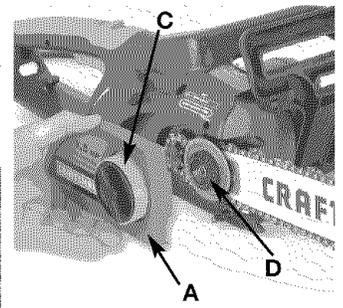

Fig. 20B
2. Install sprocket cover (A) on to power unit (Fig. 20B)